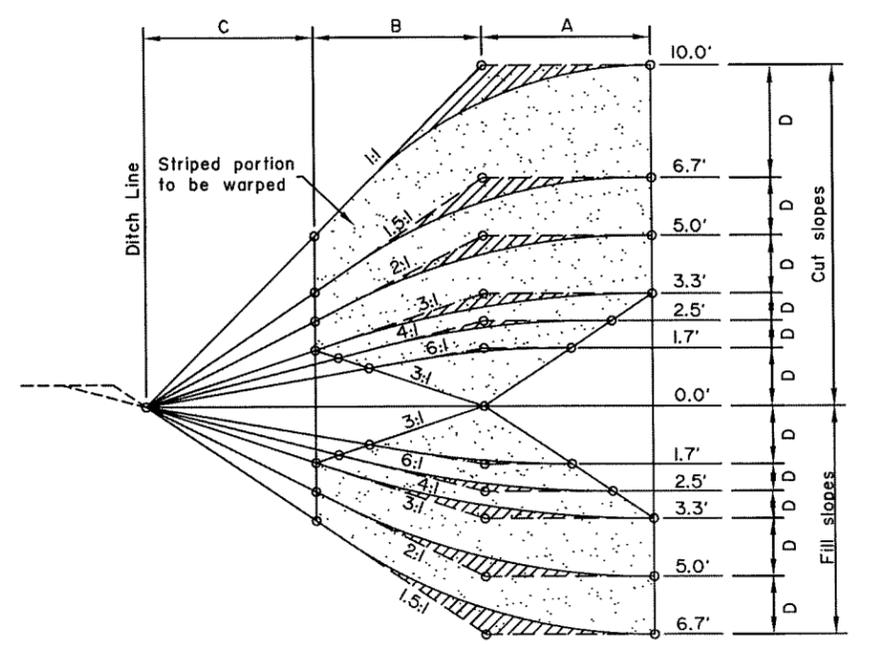

FIG. 4
- Intersections of cut and fill slopes shall be warped as shown in fig. 4 and 5 when required by the plans or special provisions.
- When the average depth of cut or fill is such that the dimension B+C exceeds 10 feet, the ends of warping shall be at points where B+C is 10 feet, provided the warping distance E does not exceed 100 feet. That is, as shown in fig. 4 and 5, warping shall begin at a cut or fill depth of 6.7 feet for 1.5:1 slopes, at 50 feet for 2:1 slopes, etc. if the dimension E exceeds 100 feet, the dimension B+C shall be reduced until the intersections of the prescribed slopes with the natural ground are 100 feet apart.
D--Flatten and round warped slopes as shown in figure 4 for each section.